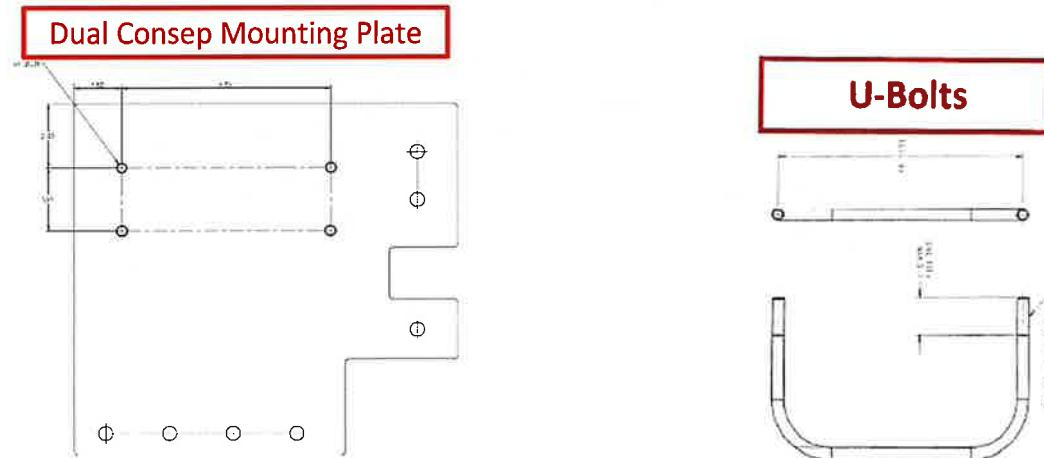

Figure 8: Dual Consep Mounting Plate & U-Bolts
- 7.4.7 Install the Dual Consep onto the Dual Consep Mounting Plate using two U-bolts. Tighten the U-bolt nuts to 6-11 ft.lbs in a cross pattern. See Figure 8.